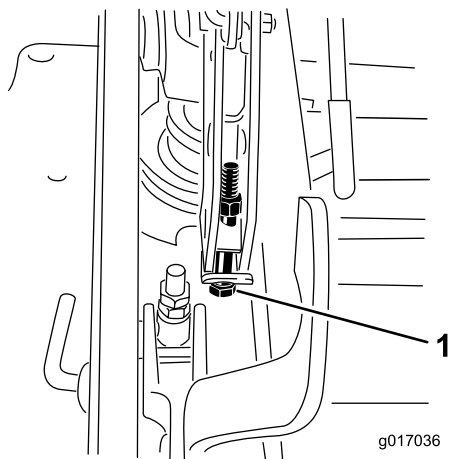

Figure 90
- If the deck is too low, tighten the single point adjustment bolt by rotating it clockwise. If the deck is too high, loosen the single point adjustment bolt by rotating it counterclockwise (Figure 90).